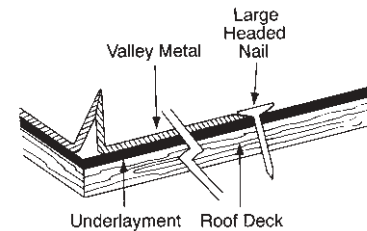

Figure 6-22: Secure metal valley flashing with large-headed nail.
3. Secure the metal flashing every 24" along both edges either with metal cleats or large-headed nails. If using large-headed nails without cleats, place the shanks immediately adjacent to the metal edge so as not to restrict the movement of the metal (Figure 6-22).